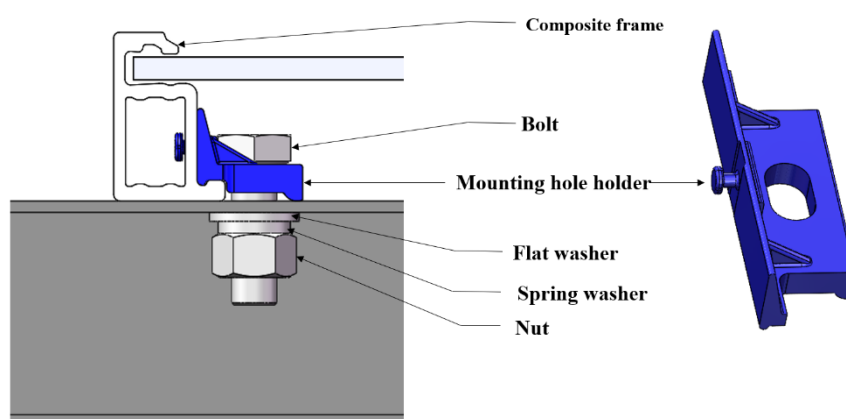

Figure 19 Bolt hole installation of composite frame Module
- ◇ When installing composite frame Module bolts, use special mounting holes (Figure 19) for the composite frame bolts. Ensure that each Module has at least four bolts. The different mounting positions of the bolts affect the maximum load capacity of the Module (Table 6).